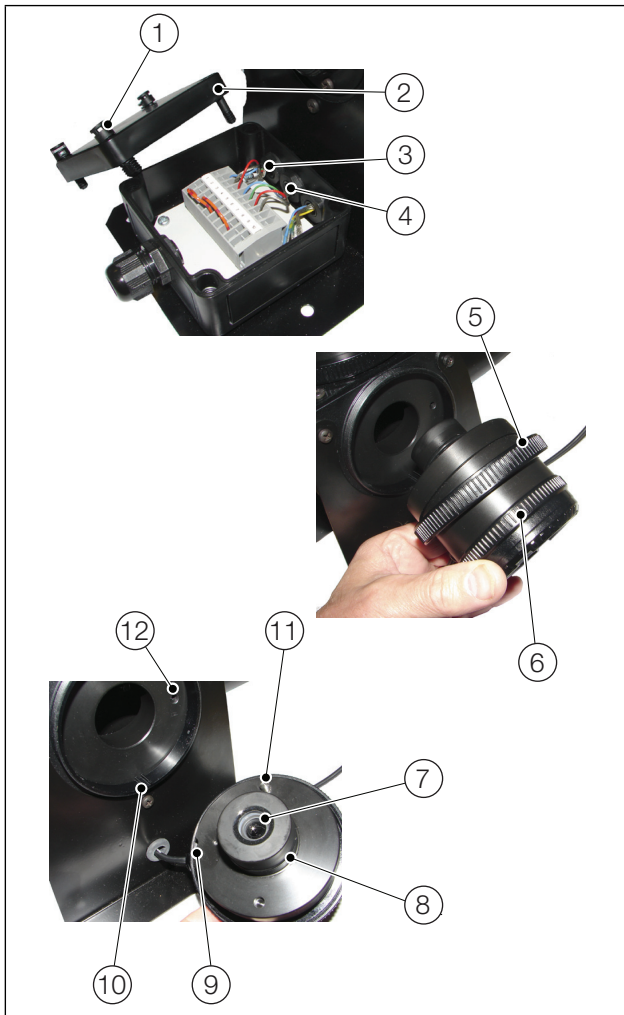

Fig. 4.2 Fitting emitter or receiver module
**Note.** Fig. 4.2 shows the emitter module but the procedure for replacing either module is identical.
3. Referring to Fig. 4.2:
- a. Release 4 captive screws (1) securing terminal box cover (2) and remove the cover.
- b. Disconnect the emitter module cable (3) or receiver module cable (4) from the terminal box terminals.
- c. Release module retaining collar (5) and remove module (6).
- e. Ensure the module window (7) is clean and free of dust.
- f. Ensure O-ring (8) is undamaged and located correctly in the module groove.
- g. Carefully insert module into cell body, ensuring cut-out (9) engages correctly with locating lug (10) and that locating dowel (11) enters hole (12).
- h. Secure module to cell body with retaining collar (5), tightening retaining collar hand-tight only.
5. Referring to Fig. 4.2, refit terminal box cover (2) and secure with 4 captive screws (1).